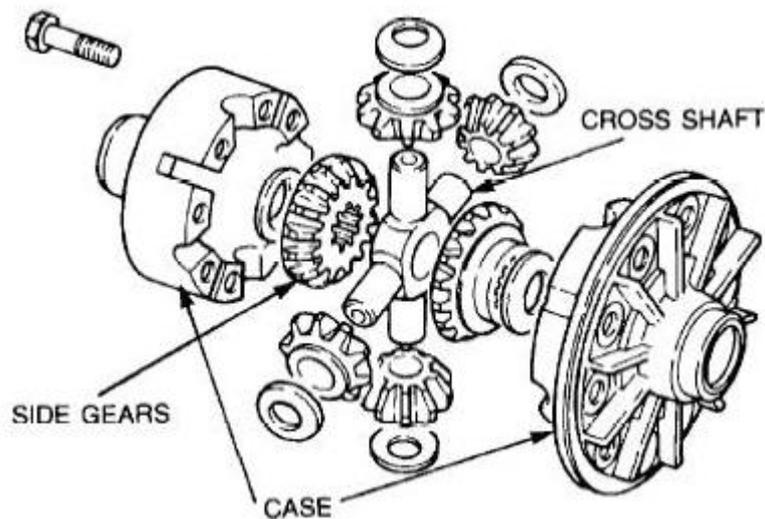

Figure 254 Front Differential Cage - Exploded View
- h. Remove the bolts and lock-washers securing the crownwheel to the differential flange (Figure 254), discard the lock-washers. Using a suitable collar and a press, remove the side bearings from the differential cage.
- i. Check for match marks on the two halves of the differential cage and if necessary, match mark the two halves. Place the cage on a side bearing mounting flange and remove the bolts securing the two halves of the cage together. Separate the two halves and remove the upper side gear and thrust washer. Lift out the cross-shaft, together with the four planetary bevel gears and thrust washers, then lift out the remaining side gear and thrust washer (Figure 254).